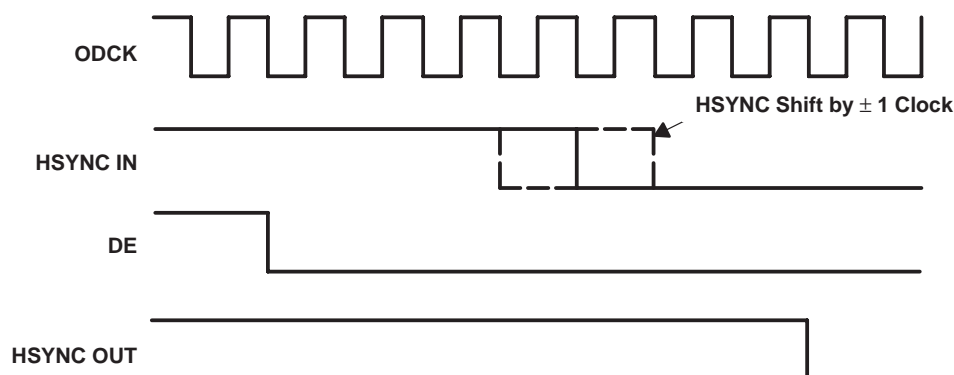

Figure 16. HSYNC Regeneration Timing Diagram
The TFP101A integrates HSYNC regeneration circuitry that provides a seamless interface to these noncompliant transmitters. The position of the data enable (DE) signal is always fixed in relation to data, irrespective of the location of HSYNC. The TFP101A receiver uses the DE and clock signals to recreate stable vertical and horizontal sync signals. The circuit filters the HSYNC output of the receiver, and HSYNC is shifted to the nearest eighth bit boundary, producing a stable output with respect to data, as shown in Figure 16. This will ensure accurate data synchronization at the input of the display timing controller.